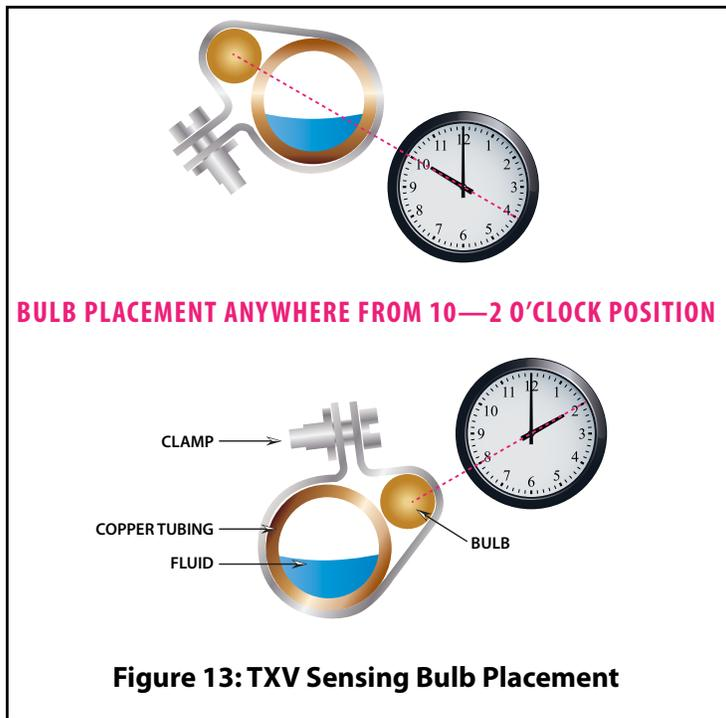

Figure 13: TXV Sensing Bulb Placement
- a. The sensing bulb should be installed on a horizontal run of the suction line if possible and should be positioned between 10 o'clock and 2 o'clock as shown in Figure 13.